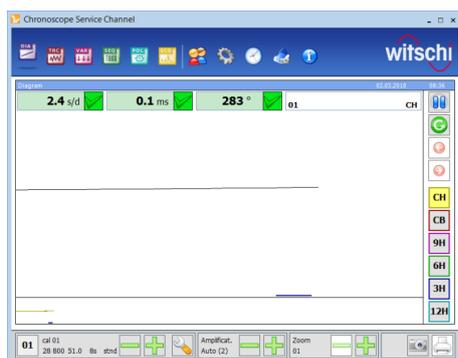

Fig. 12: The measuring process starts automatically
- The measuring process starts automatically (Fig. 12).